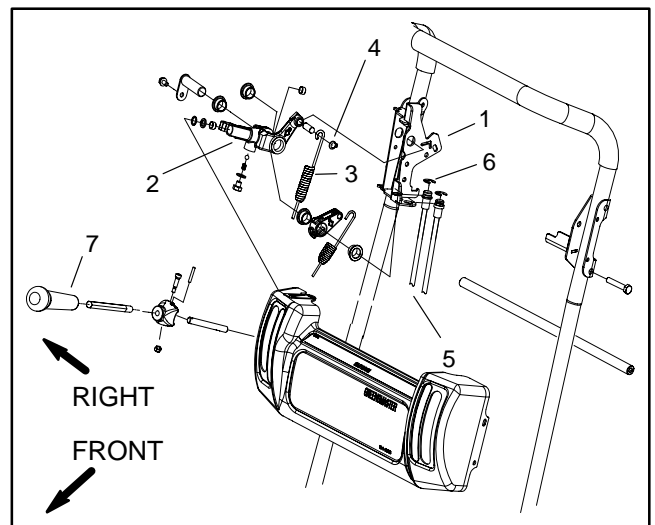

Figure 7
4. Remove traction cable from the traction lever assembly as follows (Fig. 7):
1. Secure traction cable spring to the traction lever assembly (Fig. 7):